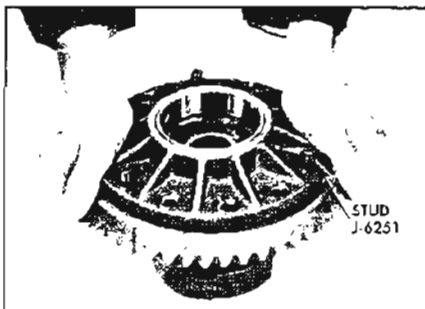

Figure 6-33—Installing Ring Gear on Differential Case
4. After making sure that mating surfaces of case and ring gear are clean and free of burrs, bolt ring gear to case using three Studs J-6251 to align parts. See Figure 6-33. If same ring gear and case are used, line up marks so they are assembled in same relative positions.
1. If ring gear was removed, install ring gear on case flange using three Studs J-6251 as shown in Figure 6-33.